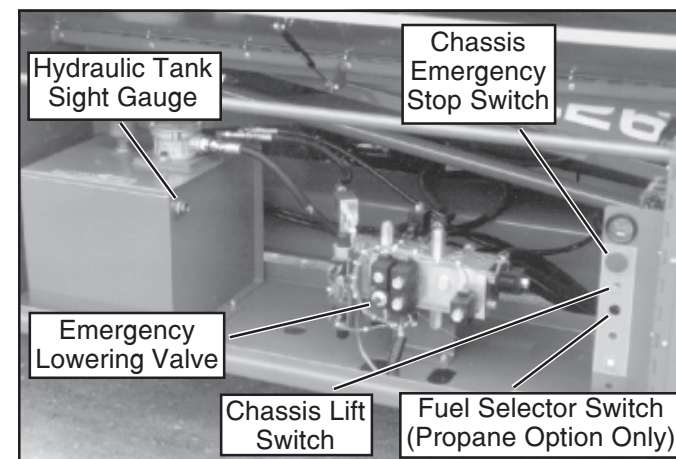

Figure 1: Control Module, Chassis Left Side
1. With engine running push the Fuel Selector Switch (Figure 1) to the center position.